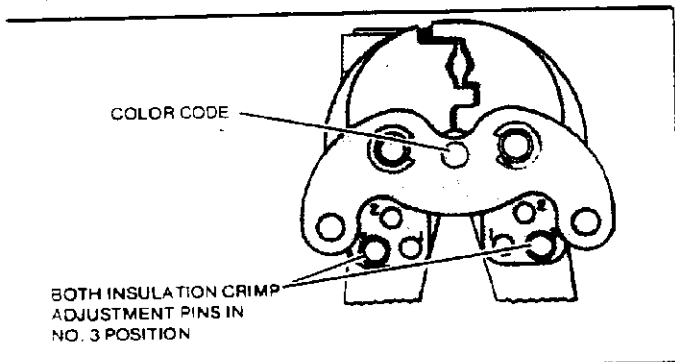

Figure 5
- (a) Insert insulation adjustment pin in No. 3 position. See Figure 5.
Always place both adjustment pins in the same position as shown in Figure 5.
Perform the insulation crimp adjustment by placing adjustment pins in No. 3 (loose) position as shown in Figure 5.